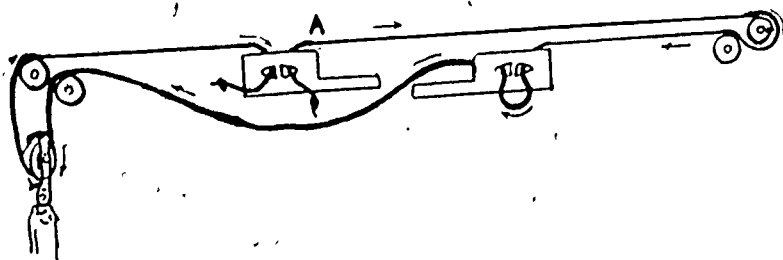

Figure 63.
- To lace the cord for a two-way draw set with a tension pulley (see Figure 63):